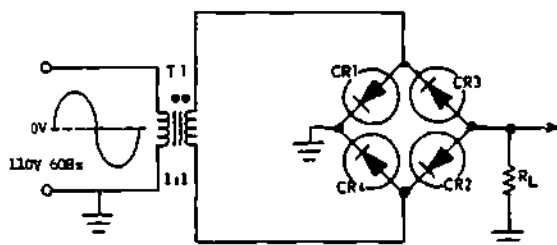

Figure 34-3. Full-Wave Bridge Rectifier
8. Calculate the peak output voltage for the circuit in figure 34-3.
9. Trace the current path through the circuit in figure 34-3 for both alternations of the AC input.